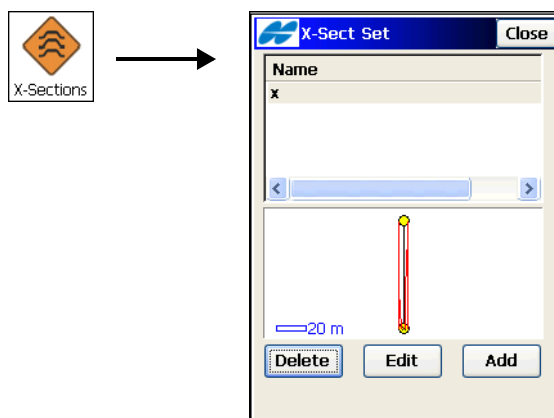

Figure 7-28. Cross Section Set
The *X-Sect Set* screen (Figure 7-28 on page 7-30) contains a list of cross -section sets and a general scaled view of the highlighted cross section set.
- **Edit** – opens the *Edit X-Sect Set* screen, displaying properties of the selected cross section set (Figure 7-28).